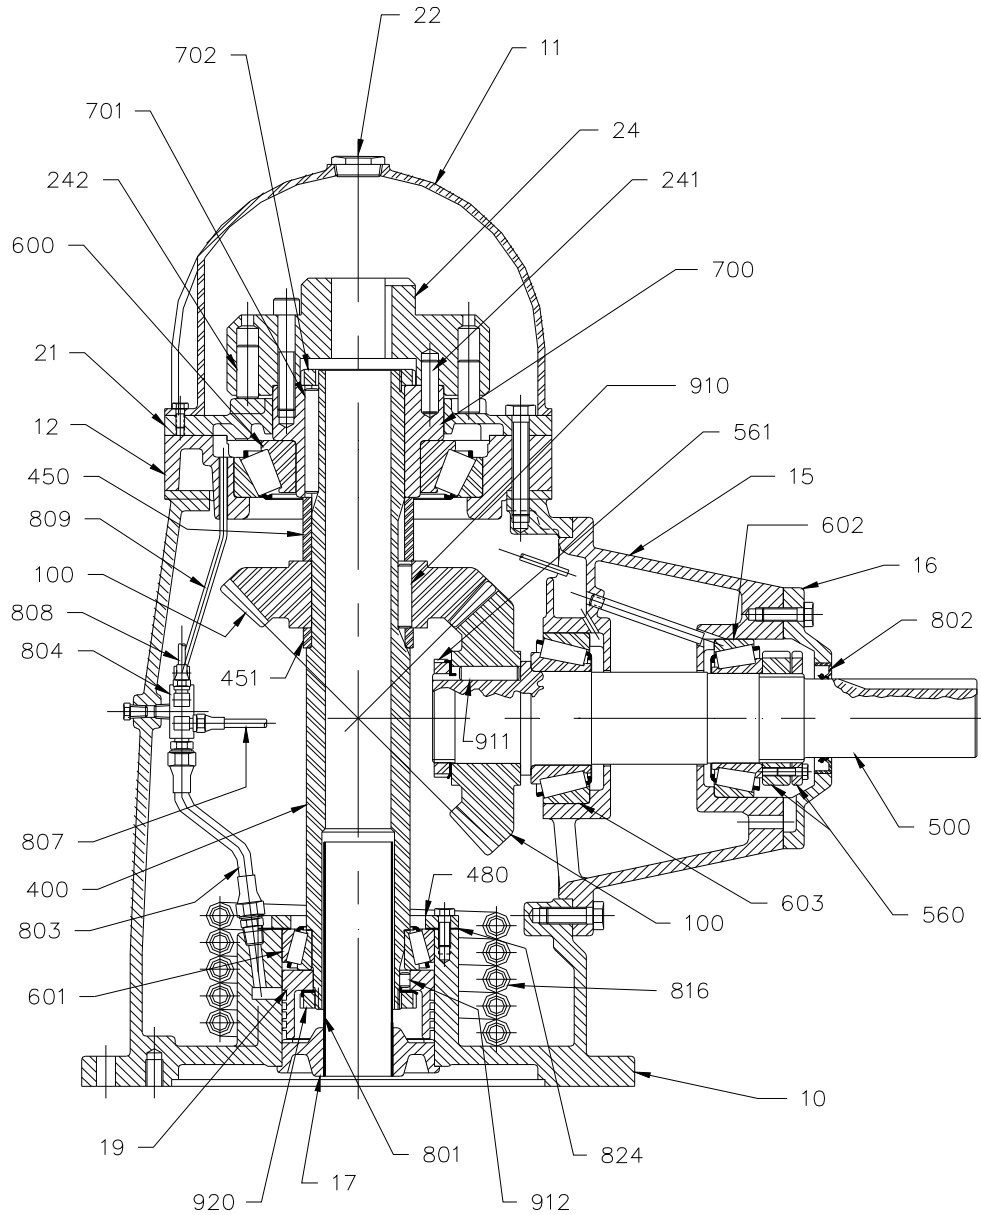

Figure 1 Vertical Hollow Shaft
- 1.1 Refer to the appropriate cross sectional drawing during disassembly (Figures 1, 2 or 3).
- 1.8 On models with non-reverse (Figure 1 or 2), remove the top cover (11) and non-reverse clutch (24).